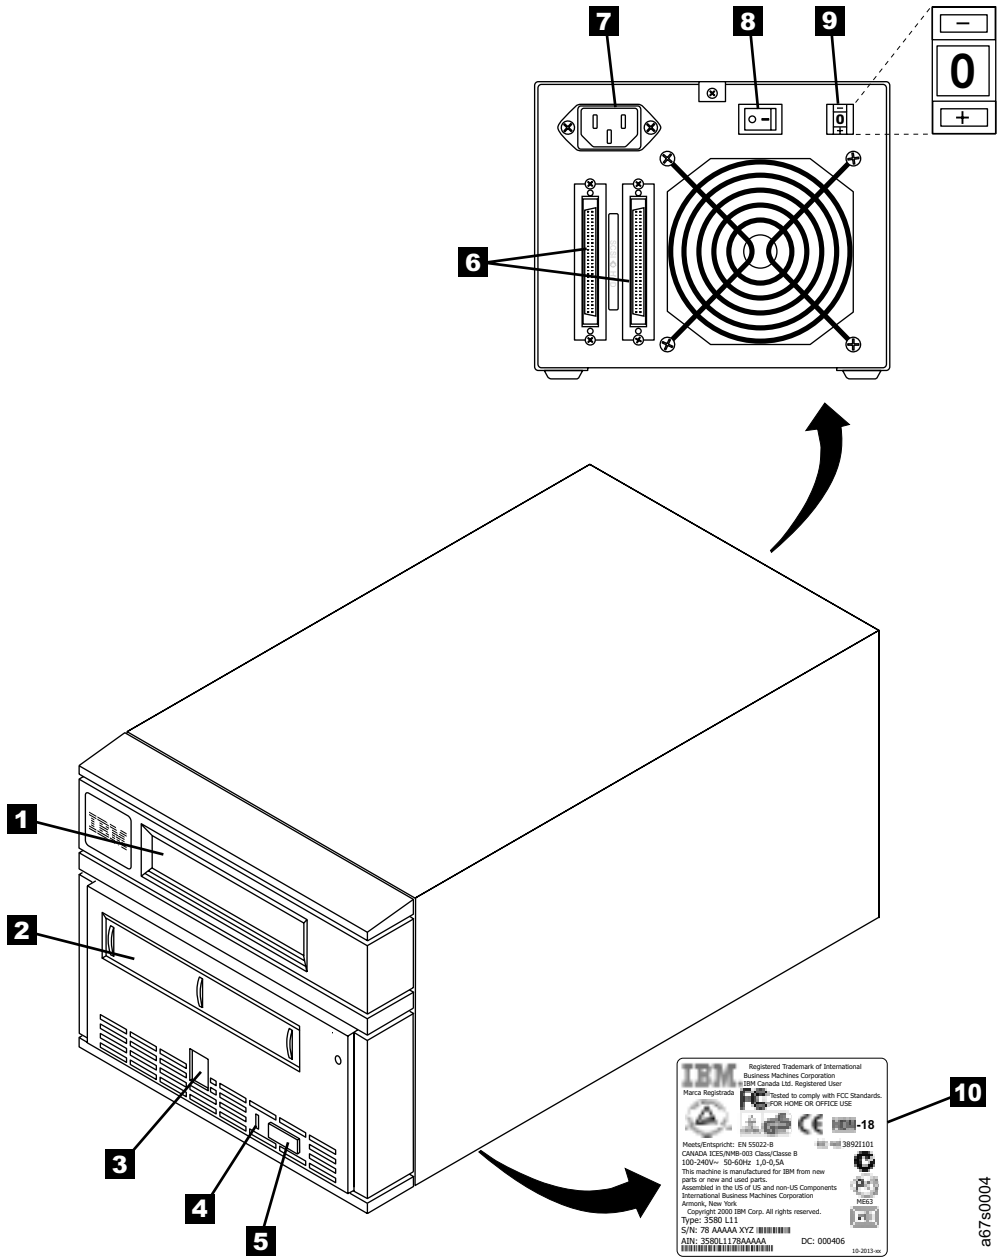

Figure 2. Components of the 3580 Tape Drive
2. Locate the SCSI address switch at the rear of the 3580 Tape Drive (see **9** in Figure 2 on page 6).
- ___ 1. Ensure that the power switch on the 3580 Tape Drive is set to off by pressing 0 on the switch (see **8** in Figure 2 on page 6).